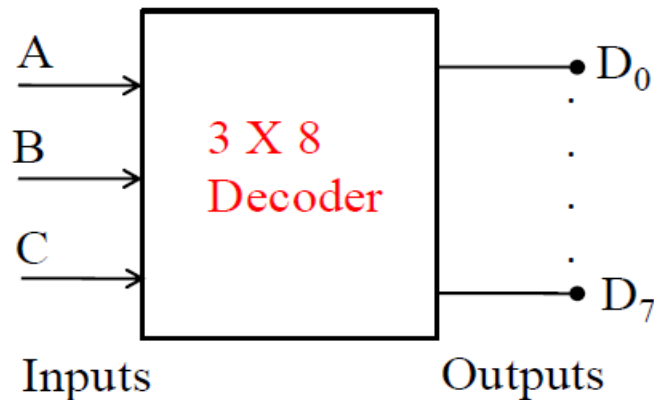

Fig. 4
- Block diagram of 3 to 8 decoder is shown in fig. 4